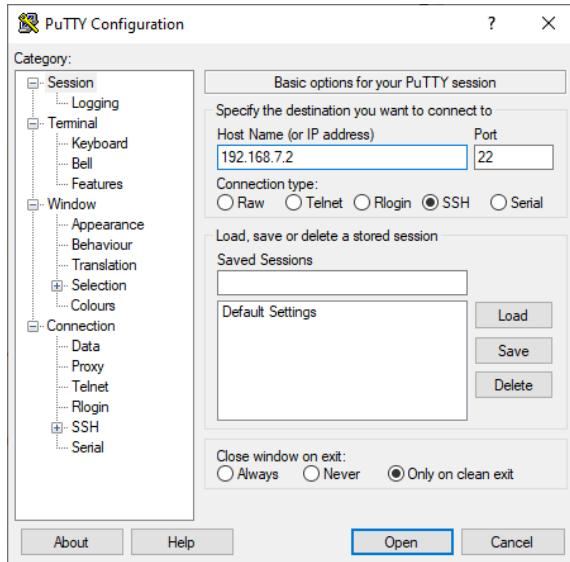

Figure 4.5: PuTTY Window
4. Specify the Host Name (or IP address) as 192.168.7.2 and port 22 (Fig. 4.5).